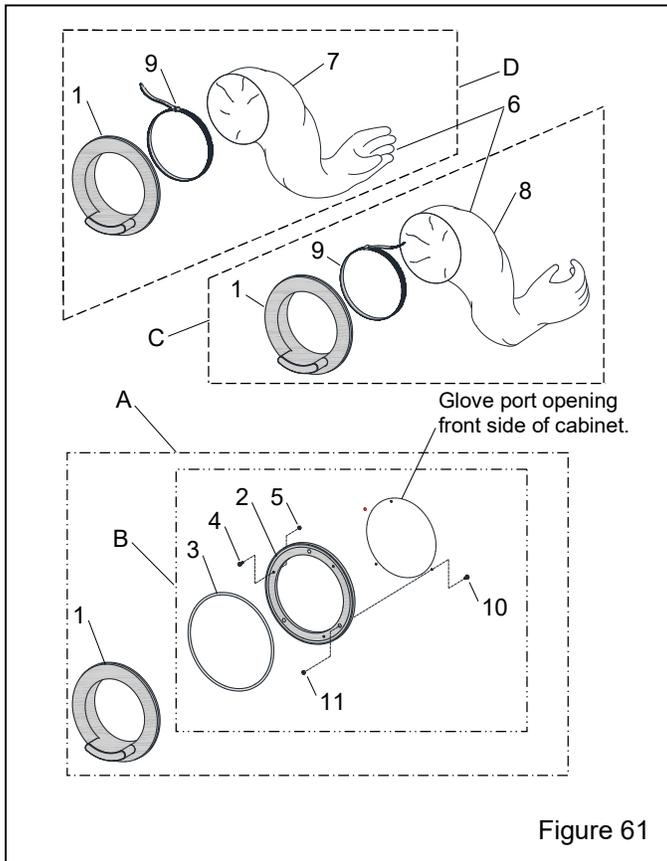

Figure 61
**10.4 Gloves and Glove Attachments – Figure 61**